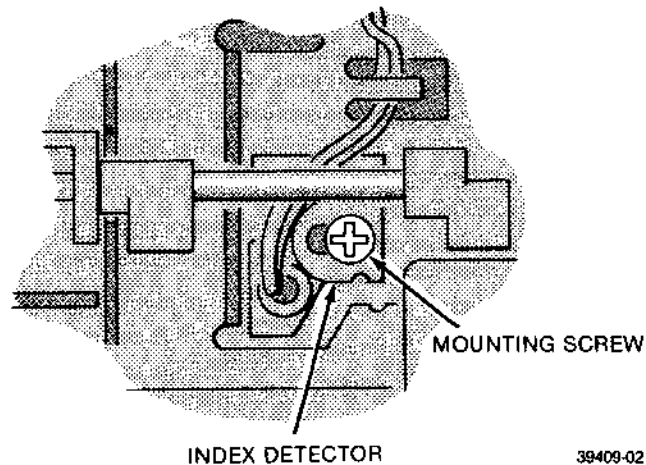

FIGURE 10-11. INDEX DETECTOR
- g. Loosen mounting screw in index detector block until assembly is just able to be moved. See figure 10-11.
- h. Step carriage to track 38 (455) or track 76 (465).
- k. Step carriage to track 01 (455) or track 02 (465).